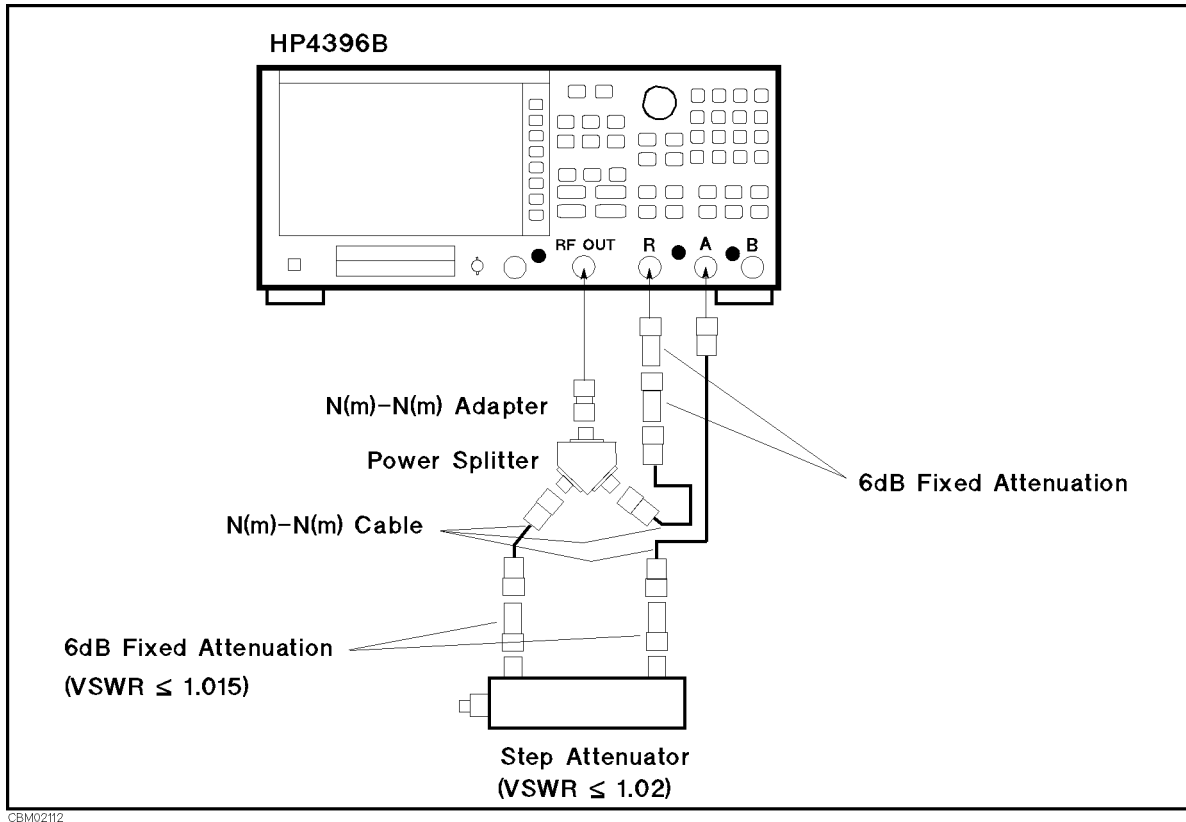

Figure 2-13. A/R Magnitude Ratio/Phase Dynamic Accuracy Test Setup 2
- i. Change the cable connection as shown in Figure 2-13.